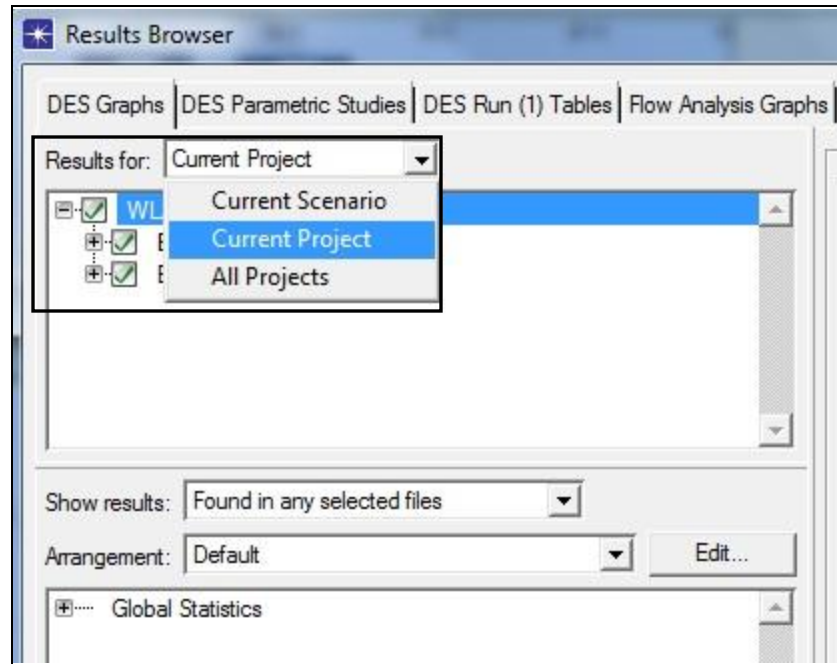

Figure 14 : View results
- To show the results of the two scenarios in the same time, click on the view result then choose the current project from results for menu and mark the desired scenarios as shown in figure 14.